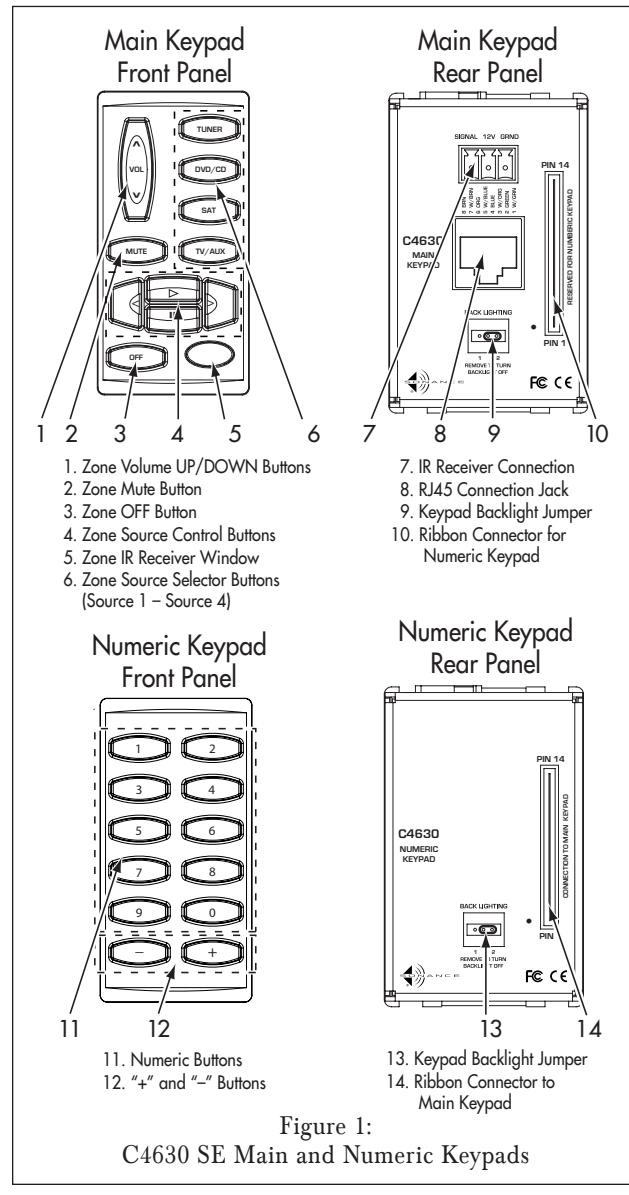
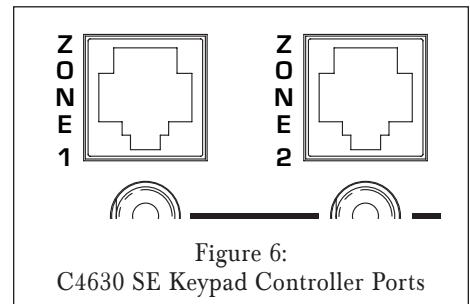

Figure 1:
Figure 6:
C4630 SE Main Keypad (see Figure 1)
C4630 SE Numeric Keypad (see *Figure 1*, on page 1)
4. Connect the CAT5/RJ45 cable to the RJ45 Connection Jack on the back of the Main Keypad (see *Figure 1*, on page 1) and to the zone's Keypad Controller Port on the C4630 SE (see *Figure 6*).